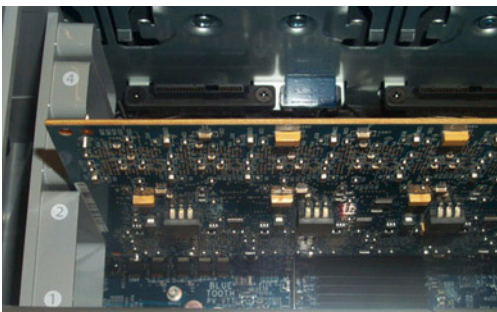

Figure 6. Figure 3. PCIe connectors facing down
- With the card's PCIe connectors facing down, carefully slide the card straight down and firmly seat the card's PCIe connector into the slot 2's PCIe slot, making sure that all card components on the front of the card have clearance from the grey plastic PCI card support, as in Figure 6.